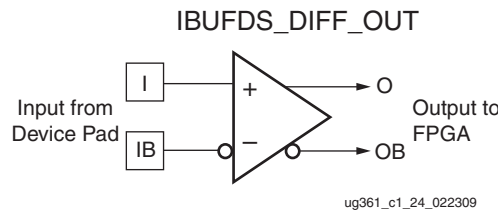

Figure 1-24: Differential Input Buffer Primitive (IBUFDS_DIFF_OUT)
Figure 1-24 shows the differential input buffer primitive with a complementary output (OB). This primitive is only recommended for use by experienced Xilinx designers.